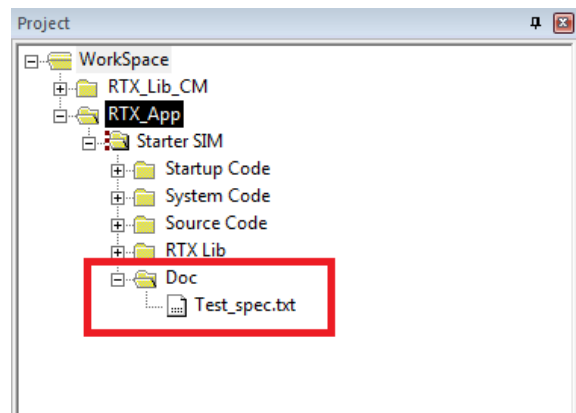

Figure 2.1: Keil IDE: Location of Test Specification File.
3. A test description file to describe what each testing task does. Name the file `Test_spec.txt`. This file is added to the RTX application project as shown in Figure 2.1.